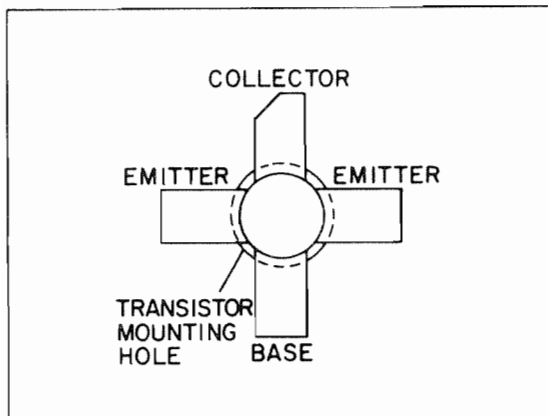

Figure 7 - Lead Identification
4. Trim the new transistor leads (if required) to the lead length of the removed transistor. Cut the collector lead at a 45° angle for future identification (see Figure 7). The letter "C" on the top of the transistor indicates the collector.